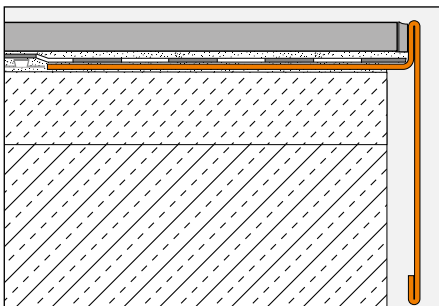
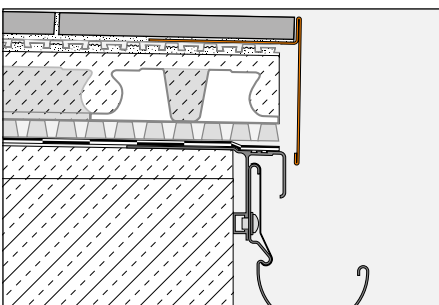

Fig. 4
Fig. 5
Installation in conjunction with tile coverings (Fig. 4 and 5)
2. Embed the trapezoid perforated anchoring leg of the edging profile Schlüter-BARA-RT on the edge of the screed (Fig. 4) or on the previously installed drainage mat Schlüter-DITRA-DRAIN (Fig. 5) by placing it into the contact layer of thin set adhesive and trowel additional adhesive over the leg so that it is completely covered.